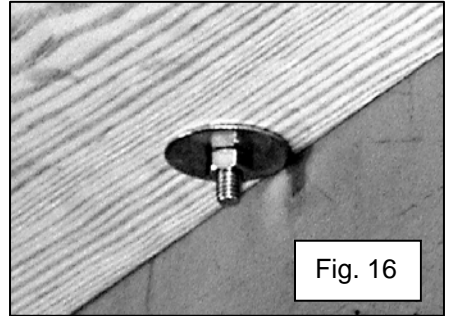

Fig. 16
24. Where there is not a cross sill attached to the angle strip bolts, install a 1-1/2" outside diameter flat washer with a 5/16" diameter hole on the bottom of the wood surface before installing lock washer and nut hand tight. See figure 16.